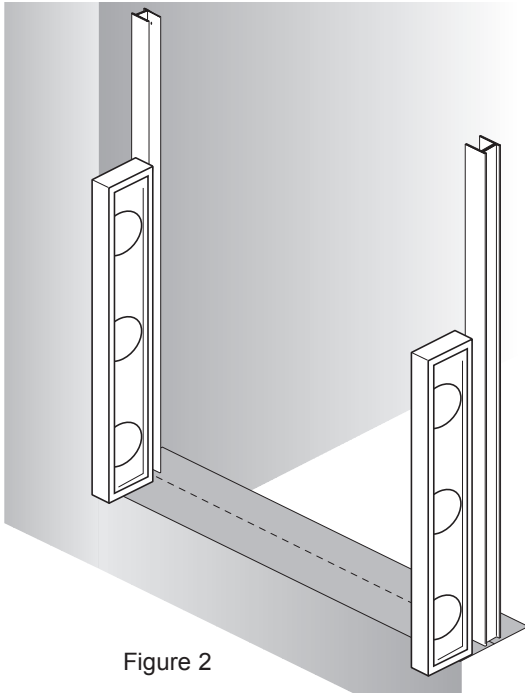

Figure 2
- C. On either wall, align the center of a Slip Jamb Male (#2) with the centerline mark on the shower dam. Use a level to align the Slip Jamb Male (#2) straight up and down (See Figure 2). Using a Pencil, mark through each of the three pre-drilled holes in the Slip Jamb Male (#2). Set the Slip Jamb Male (#2) aside for now.
- F. Repeat Steps 3-B through 3-E to install the second Slip Jamb Male (#2) on the opposite wall. (See Figure 2).